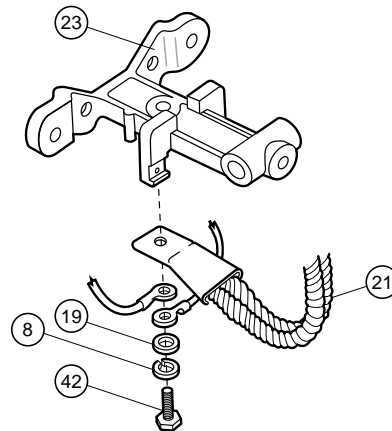

Figure 5: Assembling the Arc Chute Wire and Shunt
1. Remove all power. Disconnect the arc chute wires by removing the hex head cap screw (item 42), washer (item 19), lock washer (item 8), arc chute wires and shunt (item 21).
3. Remove the arc chute by removing the hex head nut (item 12), lock washer (item 8), hex head screw (item 40), and the arc chute.
6. Reconnect the arc chute wires and shunt (see Figure 5) using the washer, lock washer, and hex head cap screw.
1. Remove all power. Disconnect bottom end of shunt (item 21) by removing the hex head cap screw, lock washer, washer, arc chute wires and the shunt.
2. Disconnect the top end of shunt (item 21) by removing the hex head nut, lock washer, washer and the shunt.
3. Ensure the auxiliary arm pin (item 27) is centered and the set screw (item 18) is tight.
5. Connect the bottom end of the shunt by replacing the shunt, arc chute wires, washer, lock washer and hex head cap screw (see Figure 5).